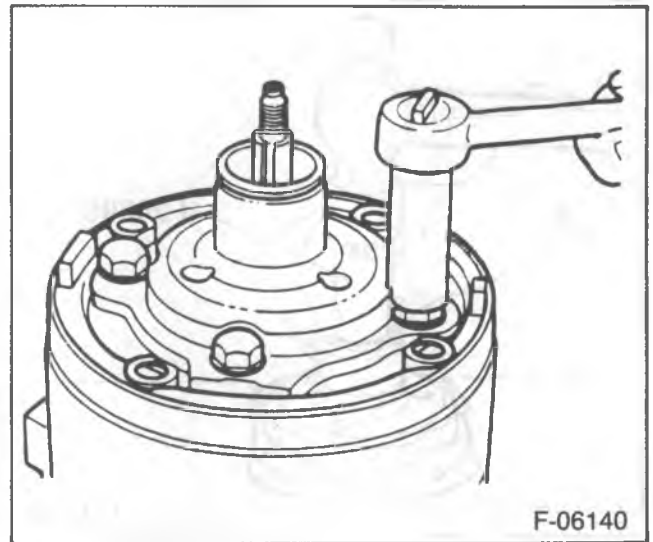

Figure 17—Removing the Front Head Mounting Screws
↔ Remove or Disconnect (Figure 17, 18 and 19)
1. Head mounting screws (figure 17).
Install or Connect (Figures 17, 18, 25 and 26)
10. Front head mounting screws (figure 17).